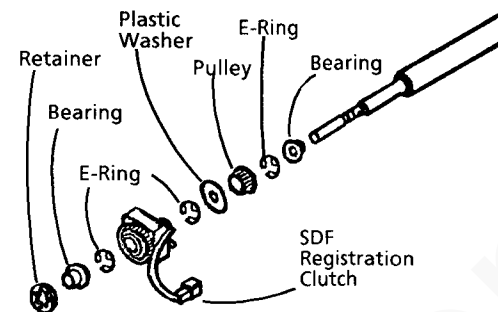

Figure 1. Installing the Components on the SDF Registration Roll
1. If the SDF Registration Roll is being replaced, remove the remaining parts from the roll and install them on the end of the new roll with the SDF Registration Clutch (Figure 1).